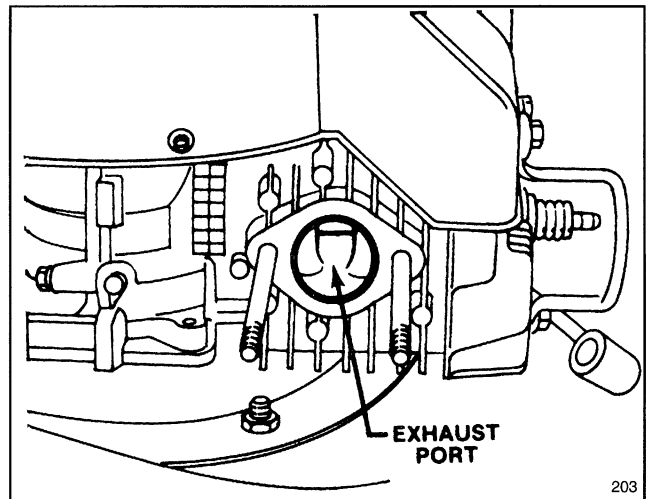

Figure 22
4. Pull wire off spark plug. Slowly pull recoil starter so piston covers exhaust port (Fig. 22).
5. Clean carbon from exhaust port (Fig. 22) with flat, hard wood scraper.
6. Reinstall muffer with screw, (2) nuts and lockwashers (Fig. 22). After cleaning exhaust port, make sure muffer gasket is still usable.